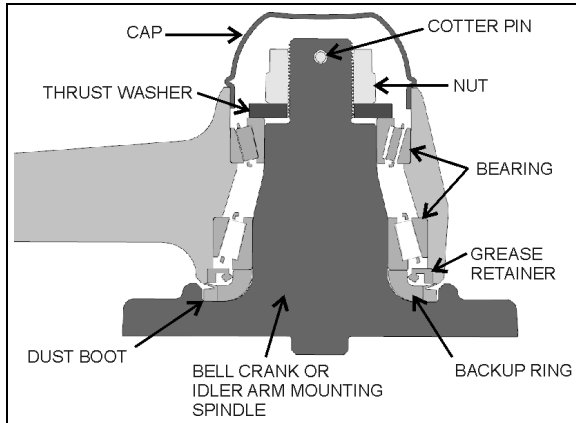

FIGURE 15: BELL CRANK OR IDLER ARM HUB
2. Remove the cap (Figure 15).
3. Remove the cotter pin, nut and tongue washer. Remove bearings, grease seal, bearing bushing and the bell crank or idler arm from its mounting spindle (Figure 15).
Install grease seal according to figure 15. Grease must be able to exit the bell crank or idler arm mechanism. For grease seal installation use tool Prevost # 110683.